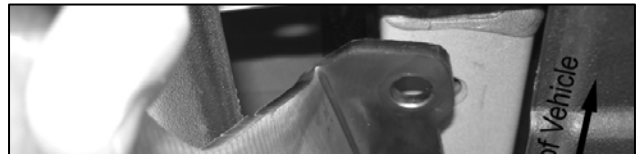
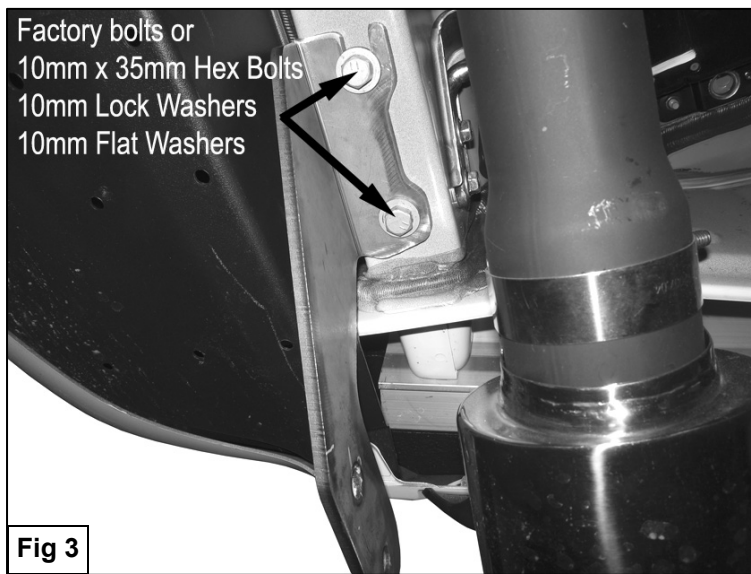

Fig 2
Fig 3
4. Starting on the driver side of the vehicle, engage the open slotted end of Mounting Bracket to already inserted factory bolt (**Figure 2**). Secure opposite end of Bracket with factory bolt removed in step three (**Figure 3**). Do not tighten at this time. Repeat this step for passenger side.
5. Partially hang driver side Frame Bracket to factory threaded holes in the frame rail using the included (2) 10-1.25mm x 35mm Hex Head Bolts, (2) 10mm lock Washers, and (2) 10mm Flat Washers (**Figure 3**). Repeat this step for passenger side.